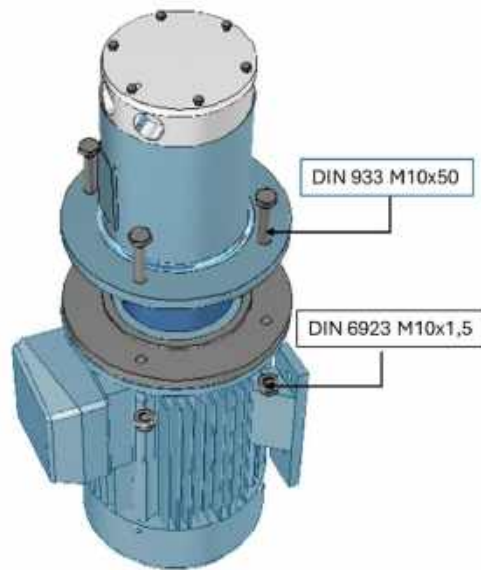

Figure 2
2. Separate the pump from the motor (Figure 2)